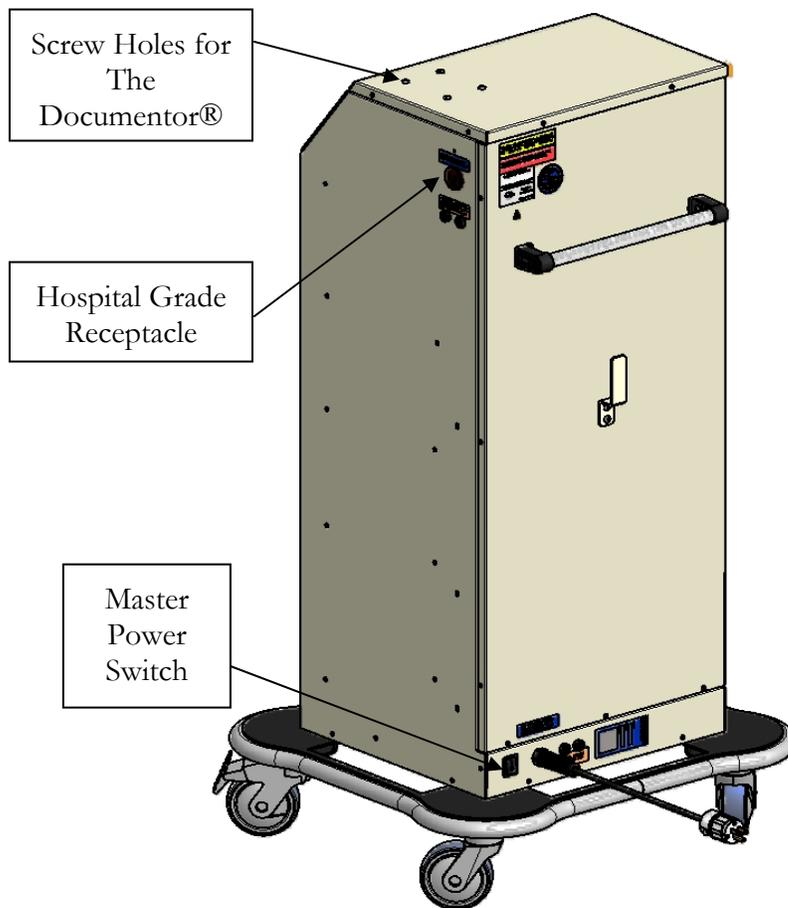

Figure 3 - Master Power Switch Location
1. Turn the 16N1[®] off at the Control Panel Power Switch and the Master Power Switch (See Figure 3) and unplug the 16N1[®] from the receptacle.
- Check to see that the 16N1[®] is plugged in and the Master Power Switch is turned on. (See Figure 3).